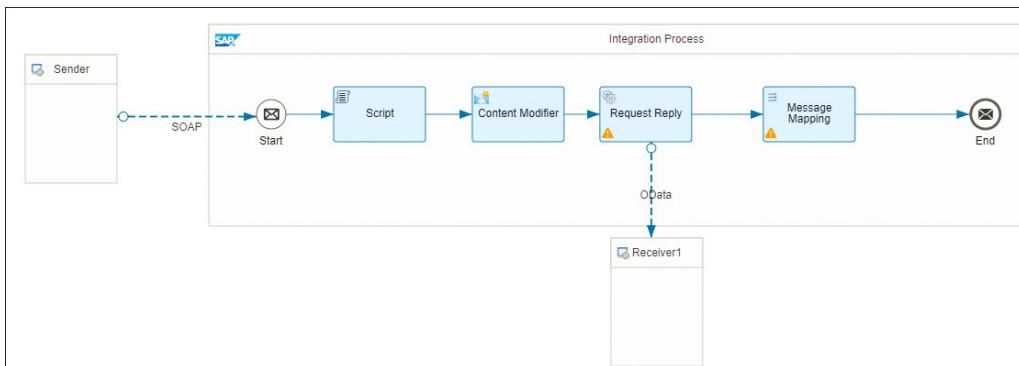

Figure 9.16 Enhanced Overview of the Integration Flow
8. Click on the **OK** button in the top-right corner of Figure 9.15 to return to the integration flow. Figure 9.16 depicts the final look of the integration flow extended with the **Script** step.
You're now ready to send a message via SoapUI. After you've triggered the message, the randomly generated number is returned in the header of the response message. Notice the `LuckyNumber` in the header section of the response in Figure 9.17 and Figure 9.18. This is exactly what we asked the script to do (see code in line 15 of Figure 9.16).